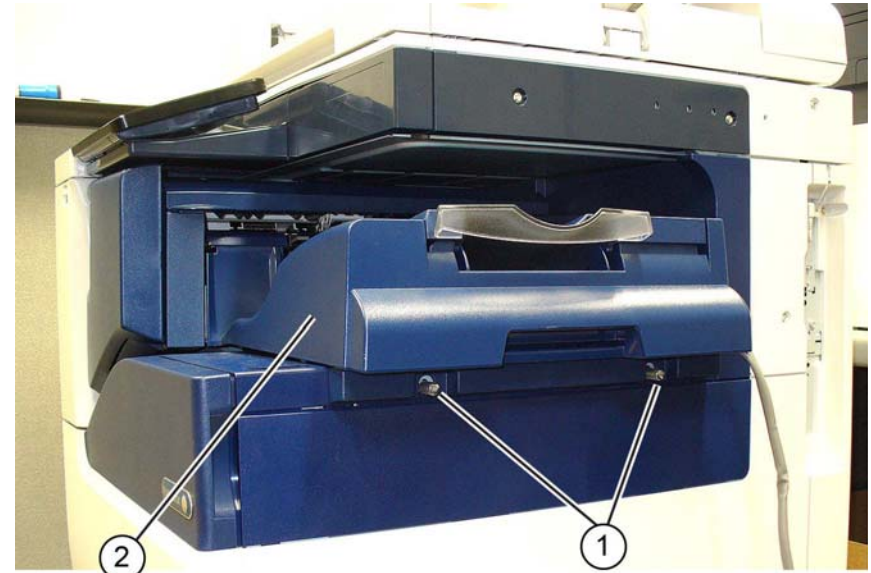

Figure 2 Finisher removal
3. Remove the integrated office finisher, Figure 2:
- a. Remove two thumbscrews (1).
- b. Remove the integrated office finisher (2) towards the front of the machine.